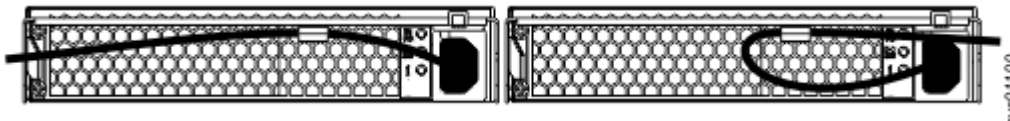

Figure 72. Routing the power cables through the cable retainers
4. Remove the power cable from the cable retainer (Figure 72 on page 115). To do so, push the cable forward to unhook it from the cable retainer.